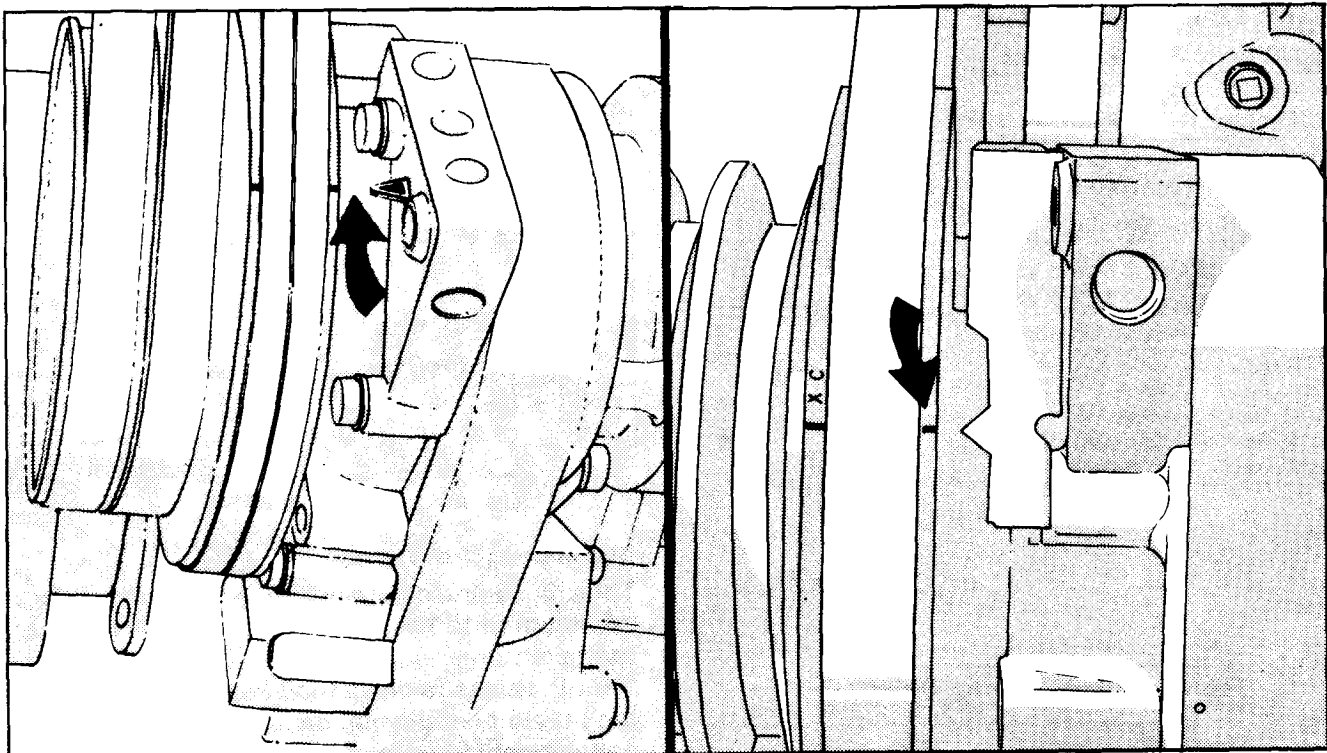
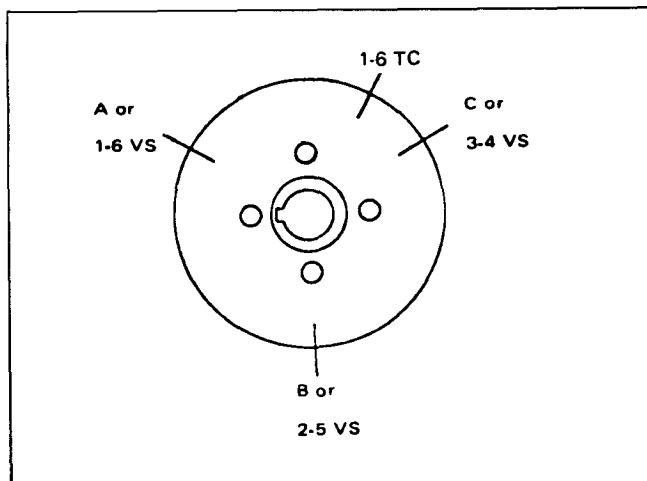

Fig. 14-70 (OM1050L). Align The Timing Marks With Pointer On The Gear Cover.
Fig. 14-71 (N114230). The Timing Marks On The Accessory Drive Pulley.
1. Rotate the crankshaft in the direction of engine rotation. Align the "A" or "1-6 VS" mark on the accessory drive pulley with the pointer on the gear cover, Fig. 14-70 and Fig. 14-71.
1. Rotate the crankshaft in the direction of engine rotation. Align the mark on the pulley with the pointer on the gear cover. Check both cylinders indicated on the pulley (Fig. 14-71) to see which valve rocker levers are loose. Adjust the injector of the cylinder in which the rocker levers are loose.